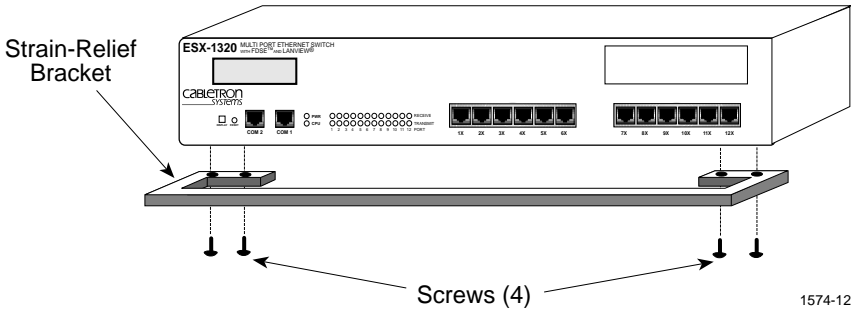

Figure 3-10 Attaching the Strain-Relief Bracket
2. Attach the strain-relief bracket to the bottom of the ESX using the four 8-32 x 3/8-inch pan head screws (Figure 3-10).